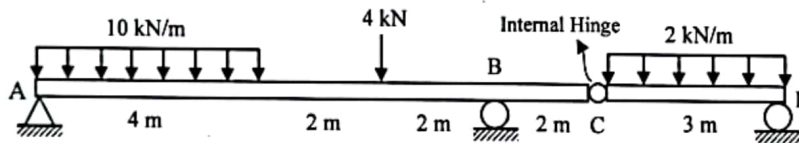

Fig. 5
5. a) A beam is loaded as shown in Fig. 5. Draw the shear force diagram (SFD) and bending moment diagram (BMD) for this beam. (20) 3
- b) Determine the flexural stress in the mid span of CD using  $b = 250 \text{ mm}$ ,  $h = 400 \text{ mm}$ . (10) 2
6. a) Identify the beam AC in Fig. 5 and using necessary diagram illustrate the mechanism of the support provided at C. (10) 1
- b) A simply supported beam of span length  $4 \text{ m}$  is subjected to a uniformly distributed load (UDL) of magnitude  $1 \text{ kN/m}$  throughout its length. (20) 3